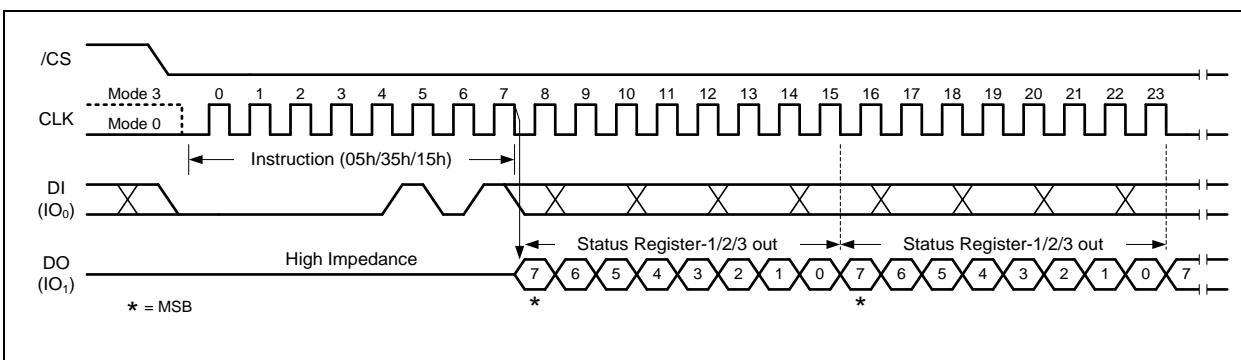

Figure 8. Read Status Register Instruction
B.2.4 The Read Status Register instructions allow the 8-bit Status Registers to be read. The instruction is entered by driving /CS low and shifting the instruction code “05h” for Status Register-1, “35h” for Status Register-2 or “15h” for Status Register-3 into the DI pin on the rising edge of CLK. The status register bits are then shifted out on the DO pin at the falling edge of CLK with most significant bit (MSB) first as shown in Figure 8. Refer to section 7.1 for Status Register descriptions.
The Read Status Register instruction may be used at any time, even while a Program, Erase or Write Status Register cycle is in progress. This allows the BUSY status bit to be checked to determine when the cycle is complete and if the device can accept another instruction. The Status Register can be read continuously, as shown in Figure 8. The instruction is completed by driving /CS high.